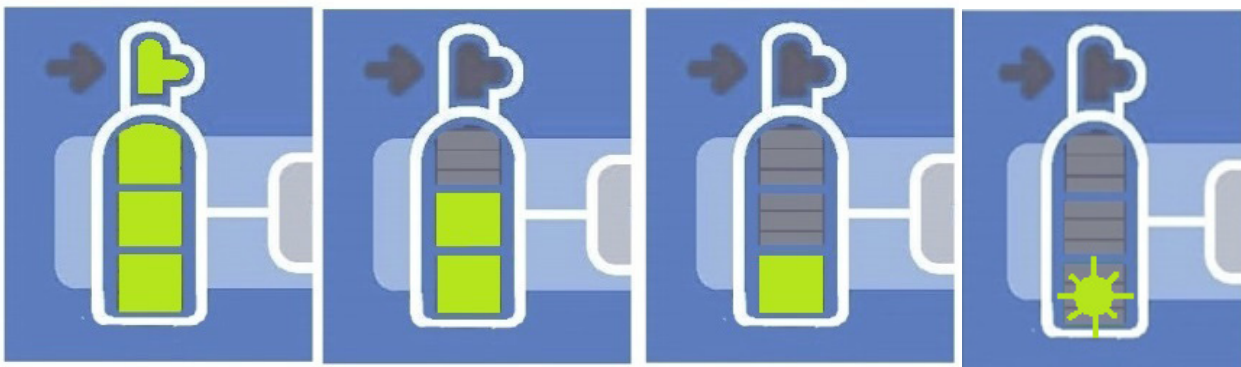

FIGURE 12: N₂O GAUGE INDICATORS
- Meaning of gas gauge indicators seen in Figure 12